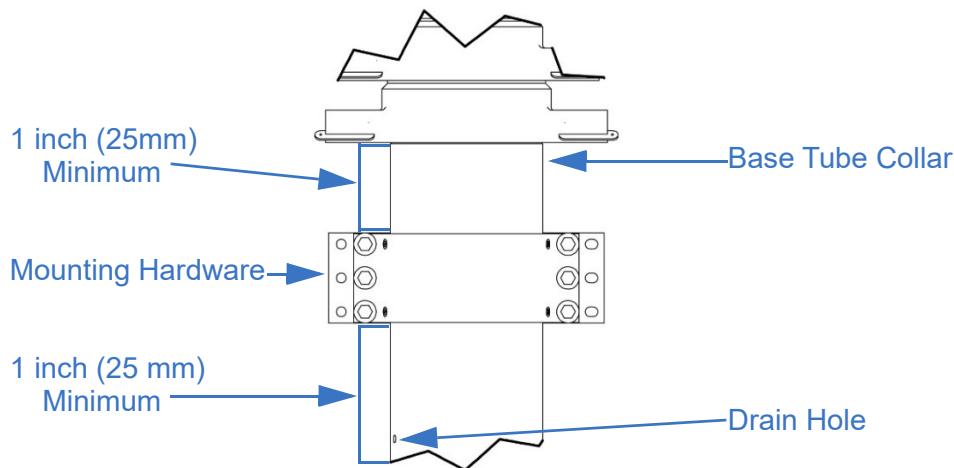

Figure 5-12 Mounting Hardware Location (Not to Scale)
- The mounting area must have sufficient room to mount the mast system. Mounting hardware must be at least 1 inch (25 mm) above the drain hole and at least 1 inch (25 mm) below, but close to, the base tube collar (Figure 5-12). Lower than 12 inches (304 mm) (from the bottom of the base tube collar to the top of the mounting hardware) may impact the wind performance. Consult the factory. Do not cover the drain hole. The exact dimensions of the mast system will vary based on the components included. Refer to Section 4.8 for dimension information.